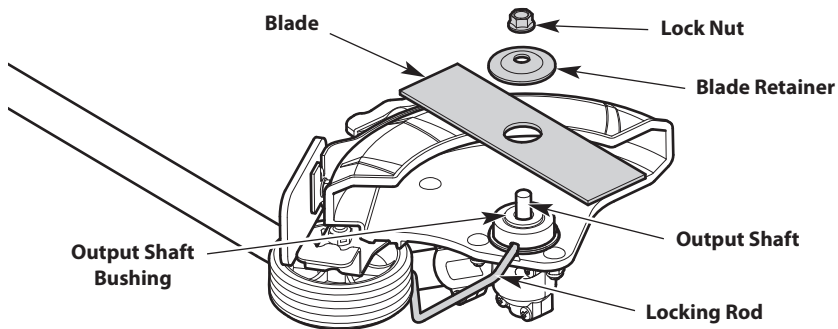

Fig. 10
4. Remove the locking rod. Remove the lock nut, blade retainer and blade (Fig. 10). Keep the lock nut and blade retainer for installing the new blade.
1. Lower the new blade onto the output shaft bushing (Fig. 10). Make sure the blade is flat against the output shaft bushing.
2. Place the blade retainer onto the output shaft with the flat surface against the blade (Fig. 10).
3. Screw the nut onto the output shaft (Fig. 10).